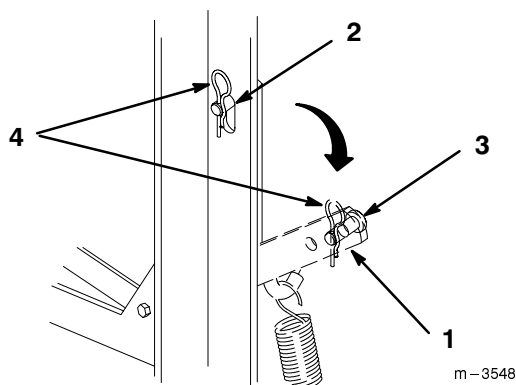

Figure 42
- Push up on the spring loaded idler arm, behind blower on lefthand side of unit, to relax pressure on clevis pin (Fig. 42).
- Remove hairpin cotter and clevis pin from slot in frame and allow idler down, to tension belt (Fig. 42).
- Install hairpin cotter and clevis pin in outer hole of idler arm for storage (Fig. 42).